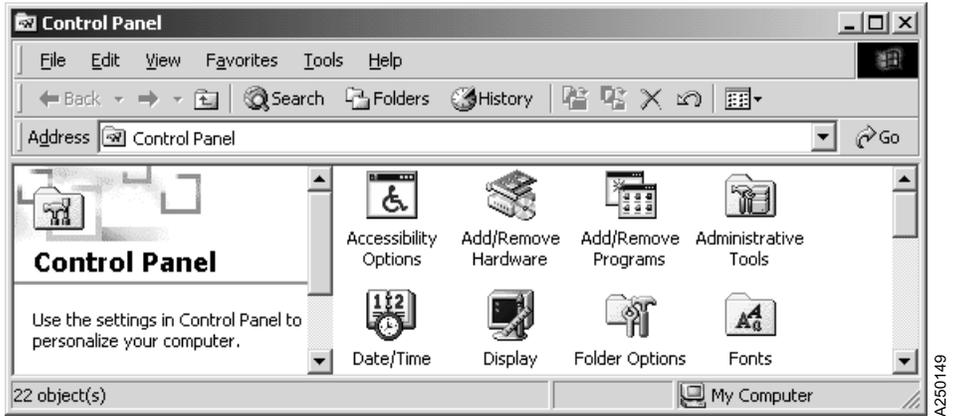

Figure 42. Add/Remove Programs Menu
7. After all Ultrium devices are uninstalled, double-click **Add/Remove Programs** on the **Control Panel**. See Figure 42.